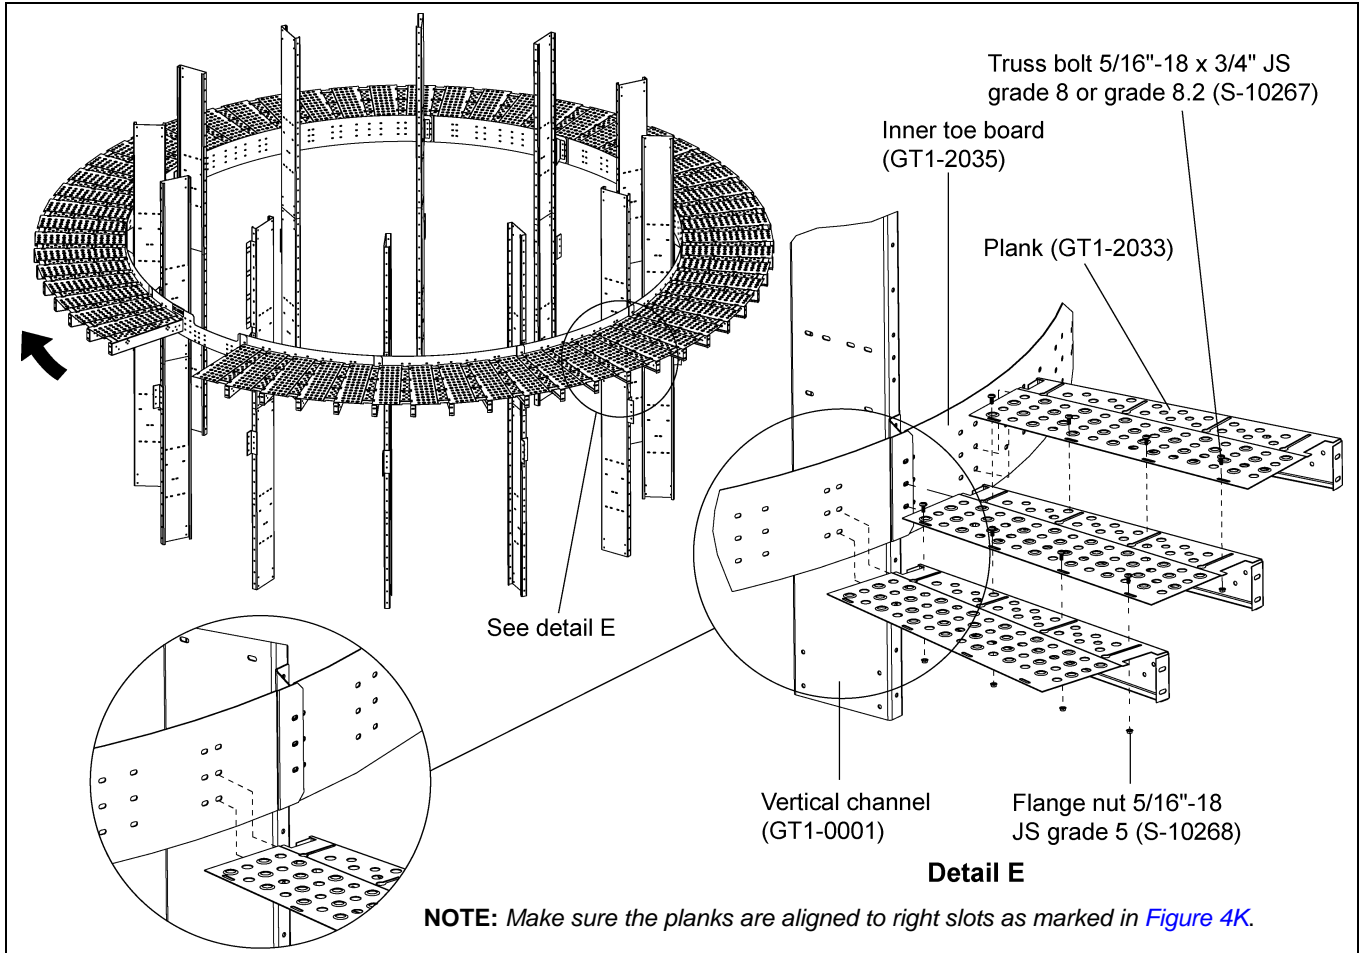

Figure 4J
1. Install planks around the dryer on inner toe board starting from ladder opening toe board (GT4-1465) as shown by arrow in the *Figure 4J*.
2. Planks (GT1-2033) are installed to bottom two (2) holes of the inner toe board (GT1-2035) using 3/8"-16 x 1" JS grade 8 or grade 8.2 bolts (S-7485) and 3/8"-16 ZN grade 5 nuts (S-968).
(See *Figure 4J*.)